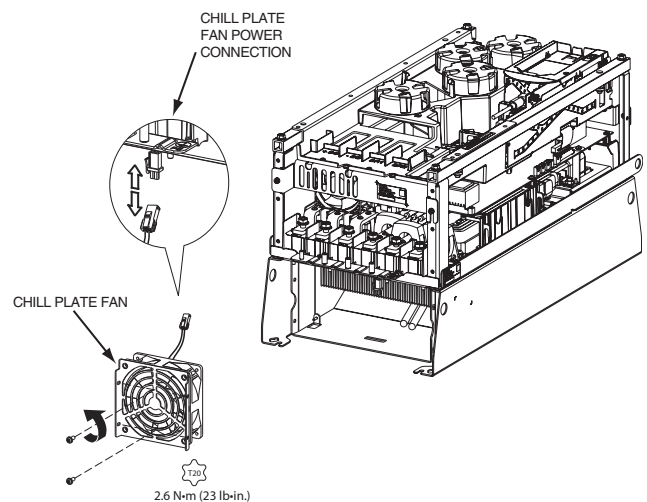

Fig. 25 — Chill Plate Fan, Frame 6
4. Remove and replace the chill plate fan. See Fig. 25.